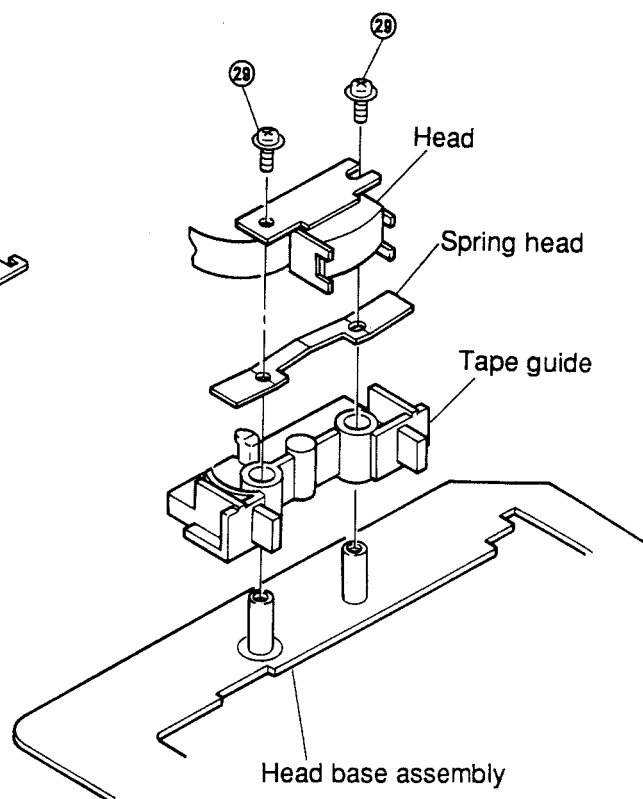

Figure 21
- (1) After removing the pinch roller spring, remove two screws ②⑨ as shown in Figure 21.